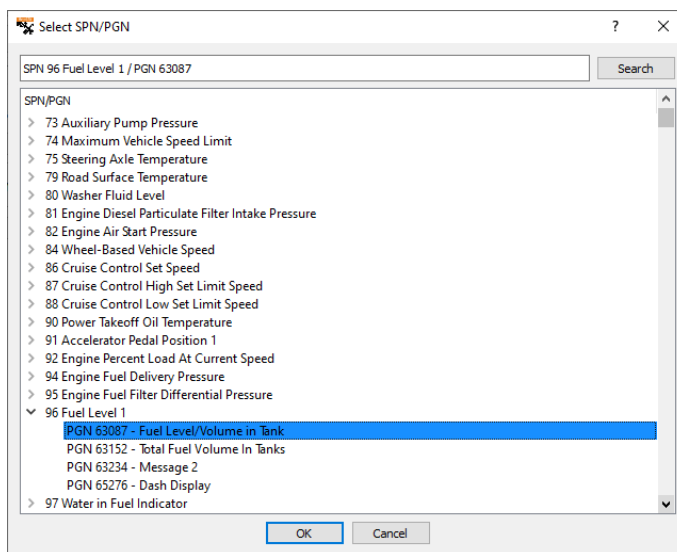

Figure 22 — Window of SPN selection from the list of BD S6
- By pressing button, select the required SPN from S6 Database into which the data conversion from Modbus RTU register is to be performed (see figure 22). For your convenience, search the SPN by the SPN number or name entered into the search bar of **Select SPN/PGN** window. Highlight the PGN in which the required SPN will be transmitted and confirm its selection by pressing button. After that, both the number, and the name of the selected SPN, as well as the PGN number (SPN 521150) will be displayed in the slot.